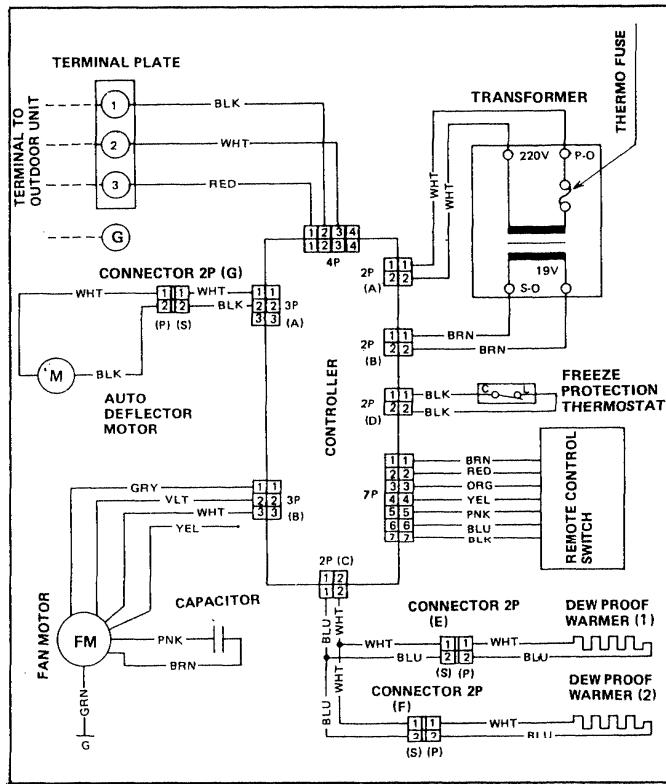

Fig. E-13
1. Remove connectors 2P (A) and 2P (B) from the controller PCB.
2. Set the resistance measuring range of multimeter to "X1Ω" and measure the resistance of the lead wires between WHT - WHT and BRN - BRN as shown in Fig. E-13.